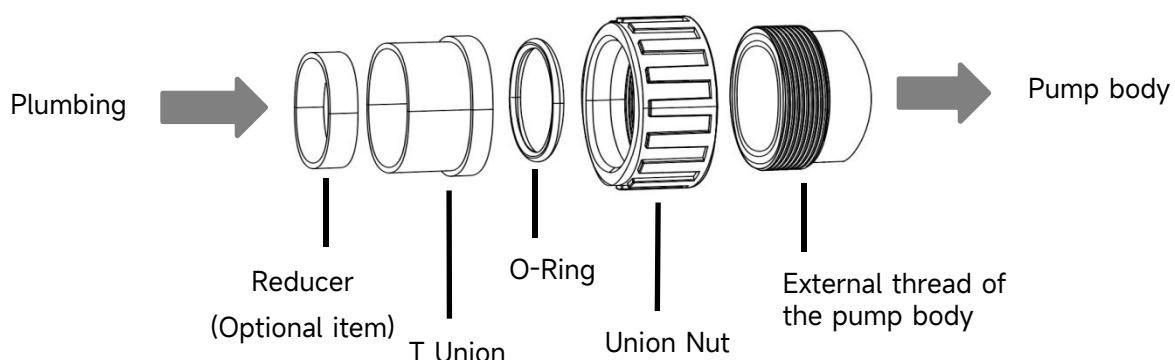

Figure 3 - Union Kit
- 5) Use the UNION KIT supplied by the pump manufacturer (Refer to Figure 3). Do not use other fittings to connect the pump inlet/outlet, in case the fittings are not match and damage the pump body.